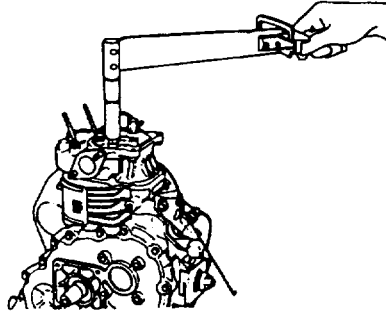

Figure 6-23 Tightening the bolts of the cylinder head
- 4) Tighten separately in two stages; the first stage, torque to 300 (21.7) kg-cm (lb-ft), and the second stage, 540-580 (39-41.9) kg-cm (lb-ft). See (Figure 6-23).